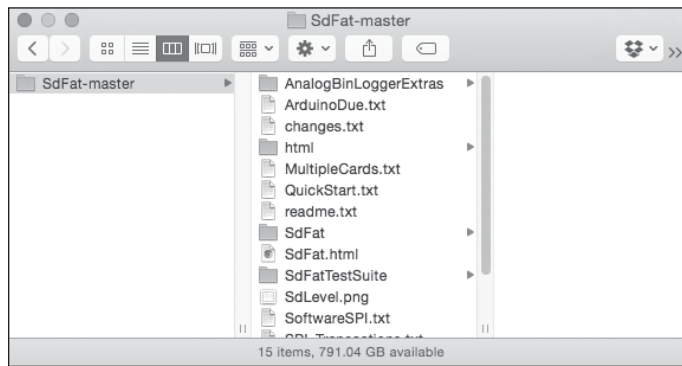

Figure 8-15: Library folder
2. After a moment, the file *SdFat-master.zip* will appear in your *Downloads* folder. Double-click to unzip this folder, which reveals the contents as shown in Figure 8-15.